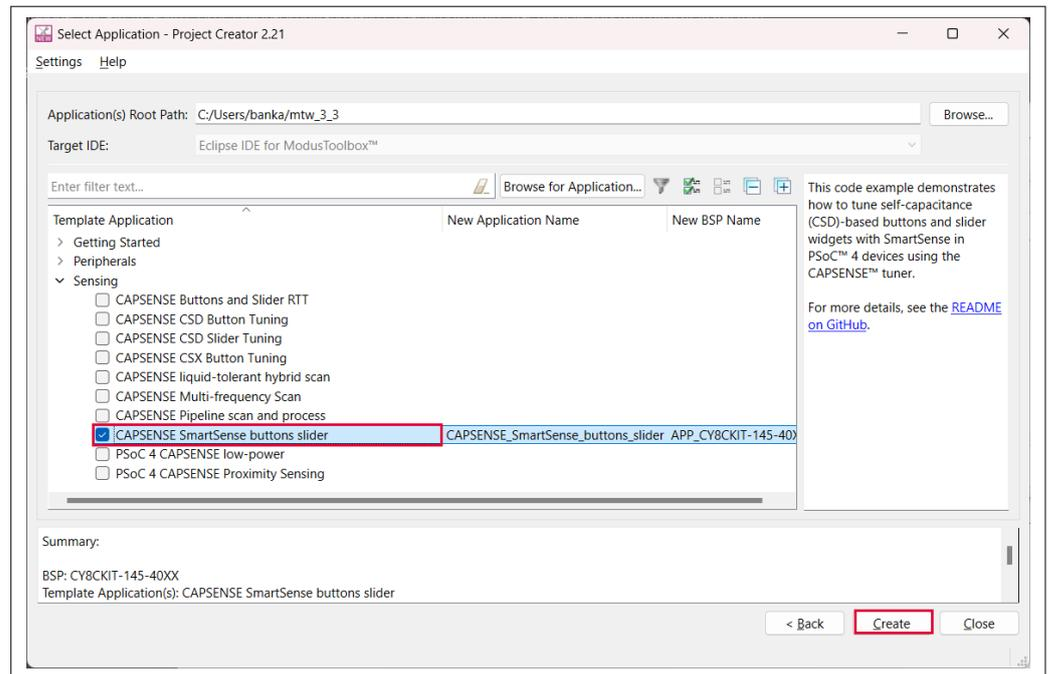

Figure 12 Creating a new application: Select Application
c. Select the required application and click **Create**, as shown in Figure 12. The right pane shows the code example description and the link to view the README file on GitHub